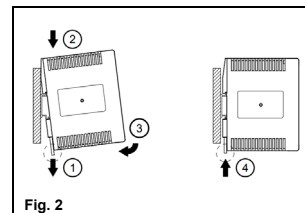

Fig. 2
3. Mounting (Fig. 2)
Each device is delivered ready to install. Snap on the DIN rail as shown in Fig. 2.